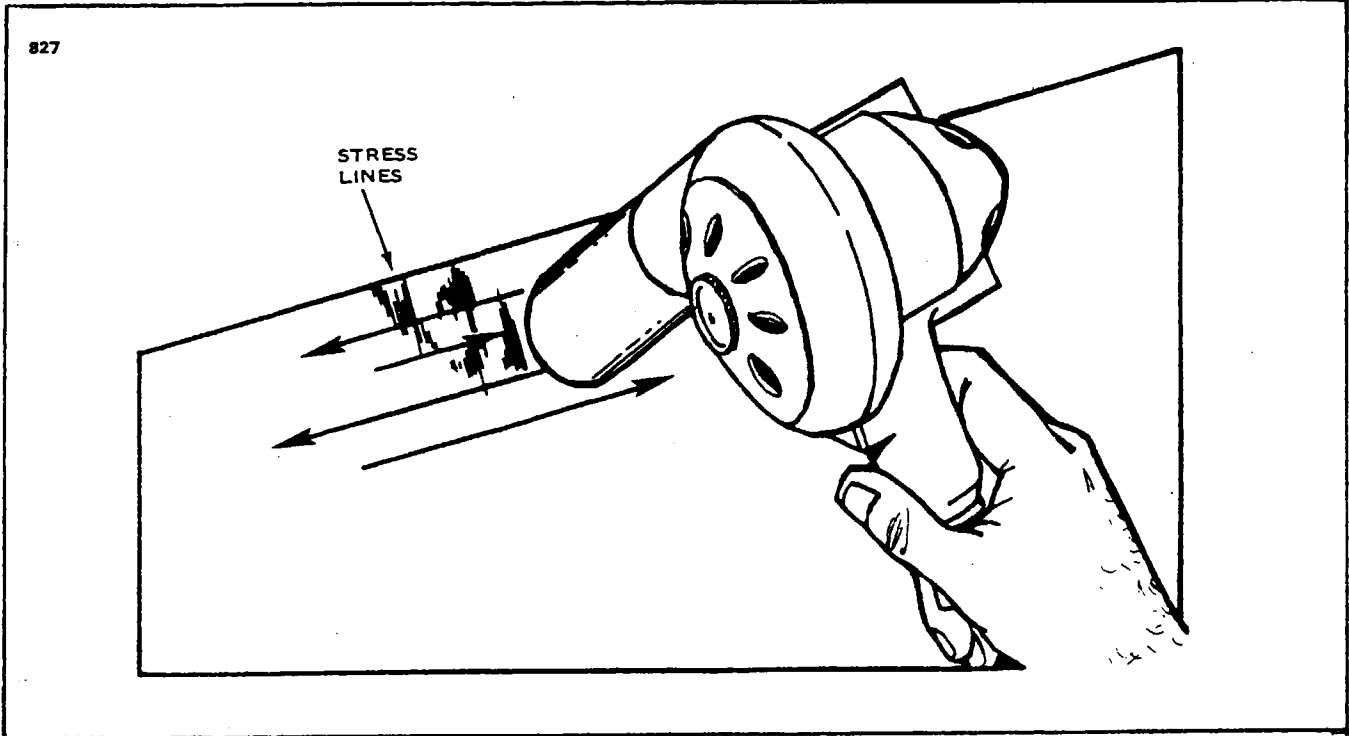

Figure 4-37. Repair of Stress Lines
- f. Stress Lines: (Refer to Figure 4-37.)